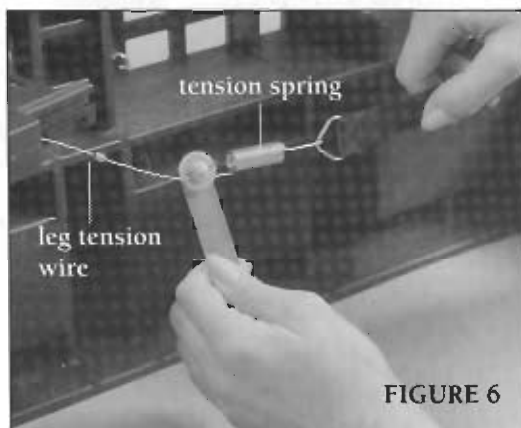

FIGURE 6
6. Tighten the nut securely onto the leg tension wire bolt with the small flat wrench (Figure 6).